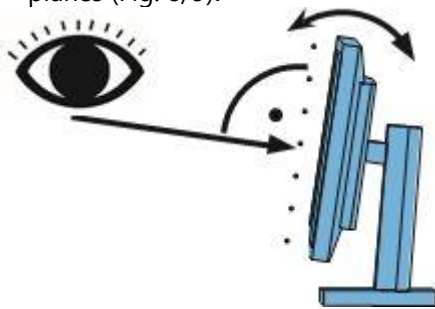

Fig. 8
- ⇒ Align the monitor (tilt, rotate using stand) so that the viewing direction is perpendicular to the monitor in all planes (Fig. 8/9).